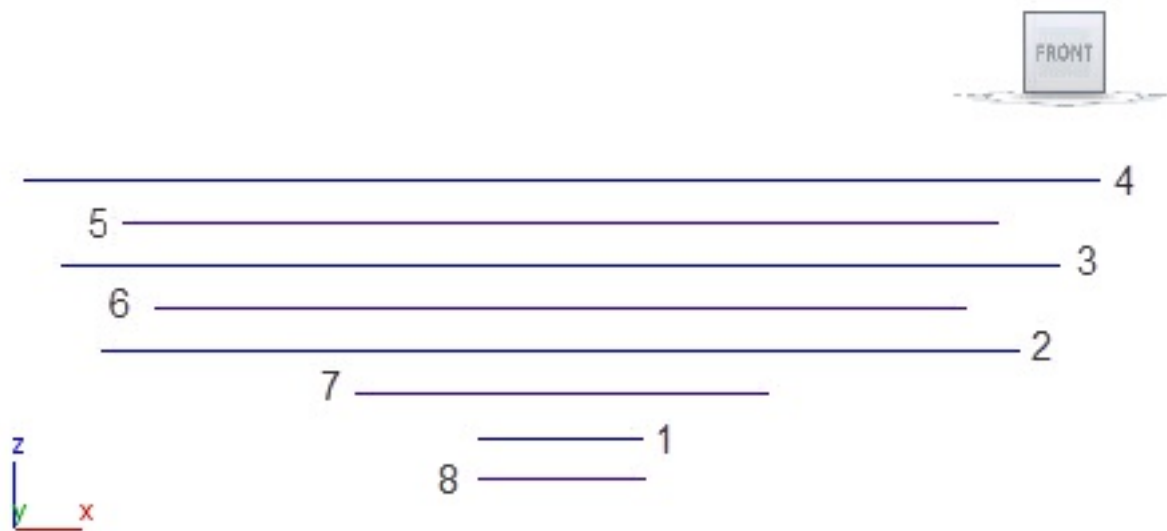

Figure 10-61 All NURBS curves scaled in the Front viewport
9. Choose the **Select and Uniform Scale** tool from the **Main Toolbar** and scale the NURBS curves uniformly in the Front viewport, as shown in Figure 10-61.